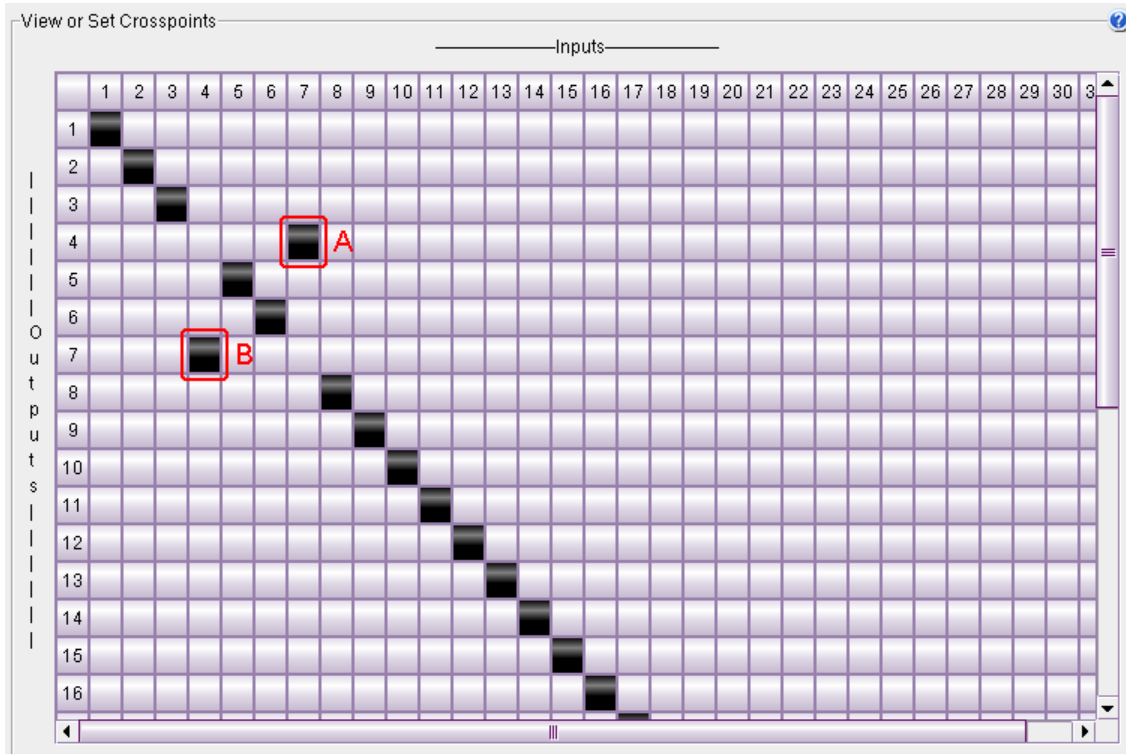

Fig. 5-1: Machine Control Crosspoints
In the matrix of Figure 5-1, ports 4 and 7 are connected. The square (A) at row 4 and column 7 is highlighted. The square (B) at row 7 and column 4 is also highlighted.